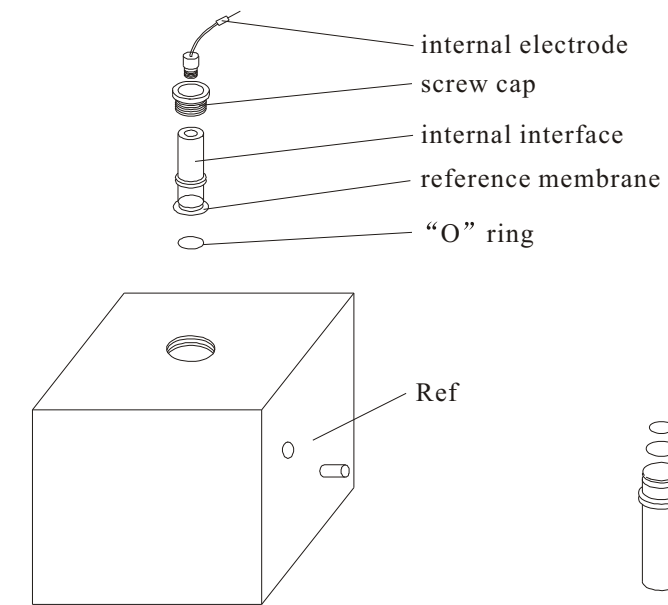
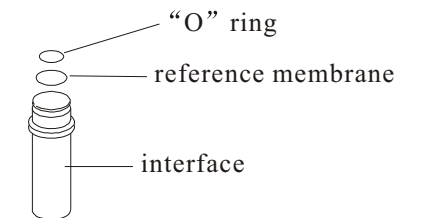

Figure 7
Figure 8
4. Loose the screw cap, take out the internal electrode, remove the filling solution, O-ring and old reference membrane (see figure 7 and figure 8).